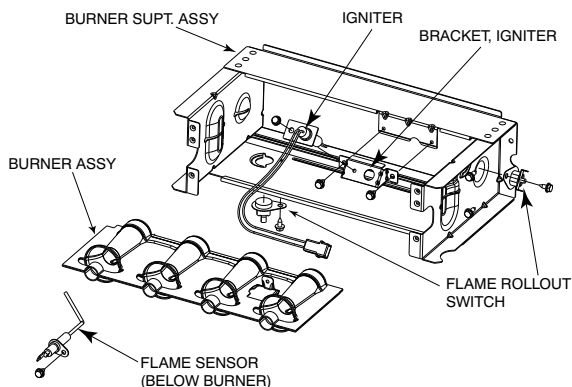

Fig. 67 – Burner Assembly
Refer to Fig. 67.
6. Remove screws attaching burner assembly to cell panel. See Fig. 67.